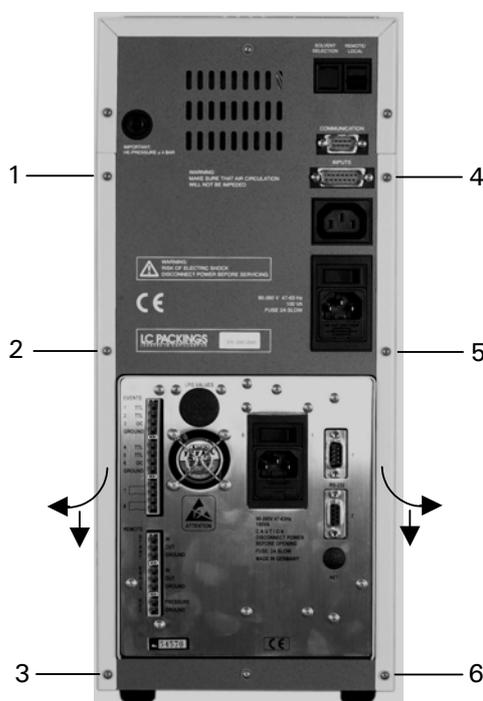

FIGURE 6-6. Rear View of Switchos
- a) Remove three screws on the back of each side panel (items 1-6, FIGURE 6-6).